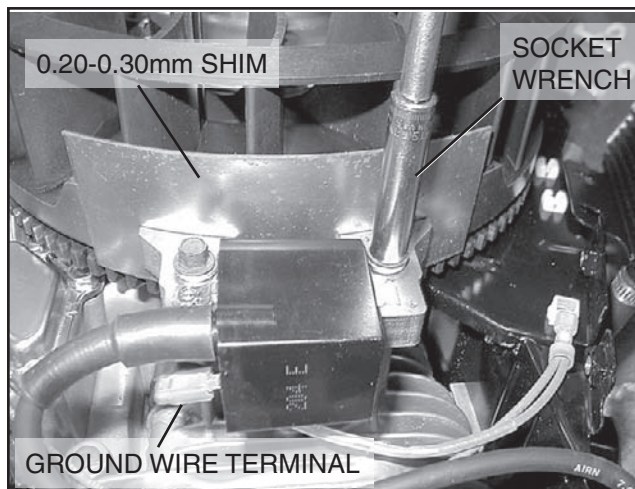

Figure 2-7. Adjusting Air Gap
2. Place 0.20-.30 mm (.008"-.012") thickness, non-magnetic gauge between magnet and ignition coil laminations, Figure 2-7.